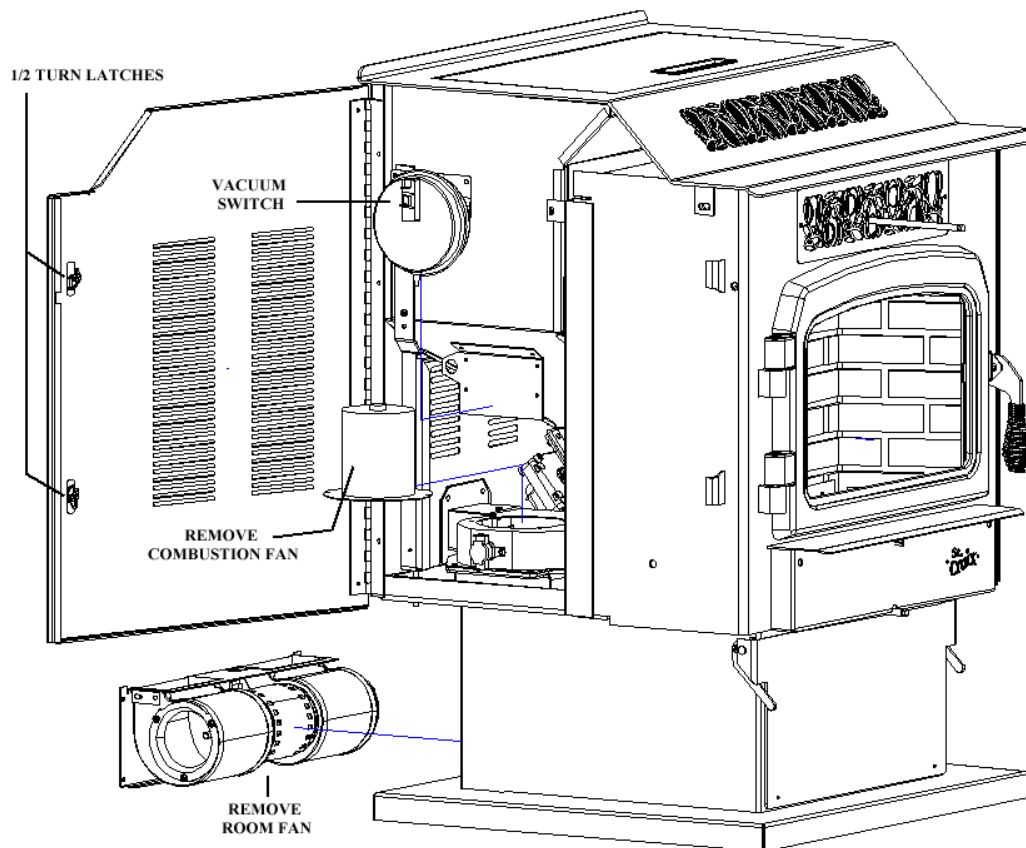

Figure 9
4. The Exhaust and Room fans should be removed and cleaned annually. Call dealer for this service. Annual oiling of the motors is not needed. (See fig. 9)